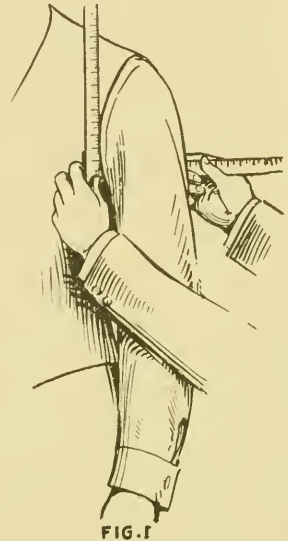

FIG. 1
4. **Place the Square** under the arm on the "Left" side of the customer, for the reason that the person is more normal on the left side; also that it is more convenient, because you are then applying all the measures with the right hand, the left hand doing nothing but holding the tape line in position (unless you should be a left-handed person. Place the square with the short arm extending upwards and the long arm horizontally under the arm and close against the front of the arm; mark with the chalk in front of the square. (See Fig. 1.)